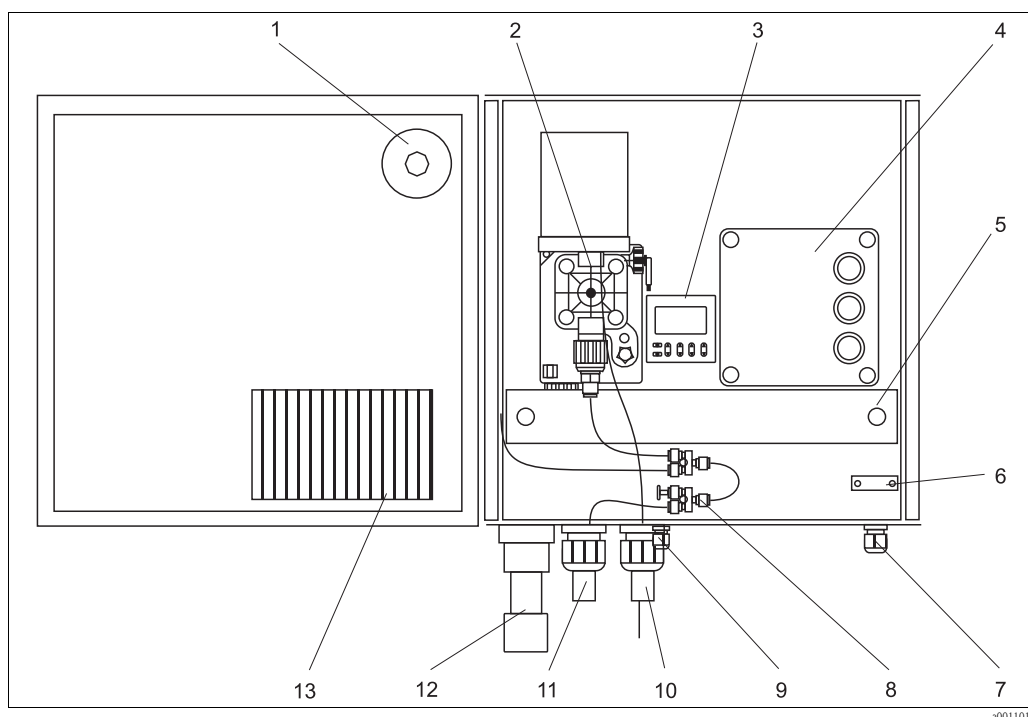

Fig. 10: Control box
8. Guide the power cable for the thermal switch from the left into the cable duct (→ Fig. 10, item 5) to the connection box (item 4).